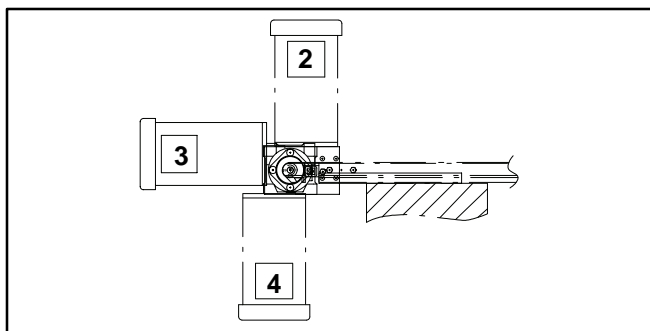

Figure 15
**NOTE:** Gearmotor may be operated in positions 1, 2, 3 or 4 (Figure 15). Position 4 may reduce gear reducer oil seal life.